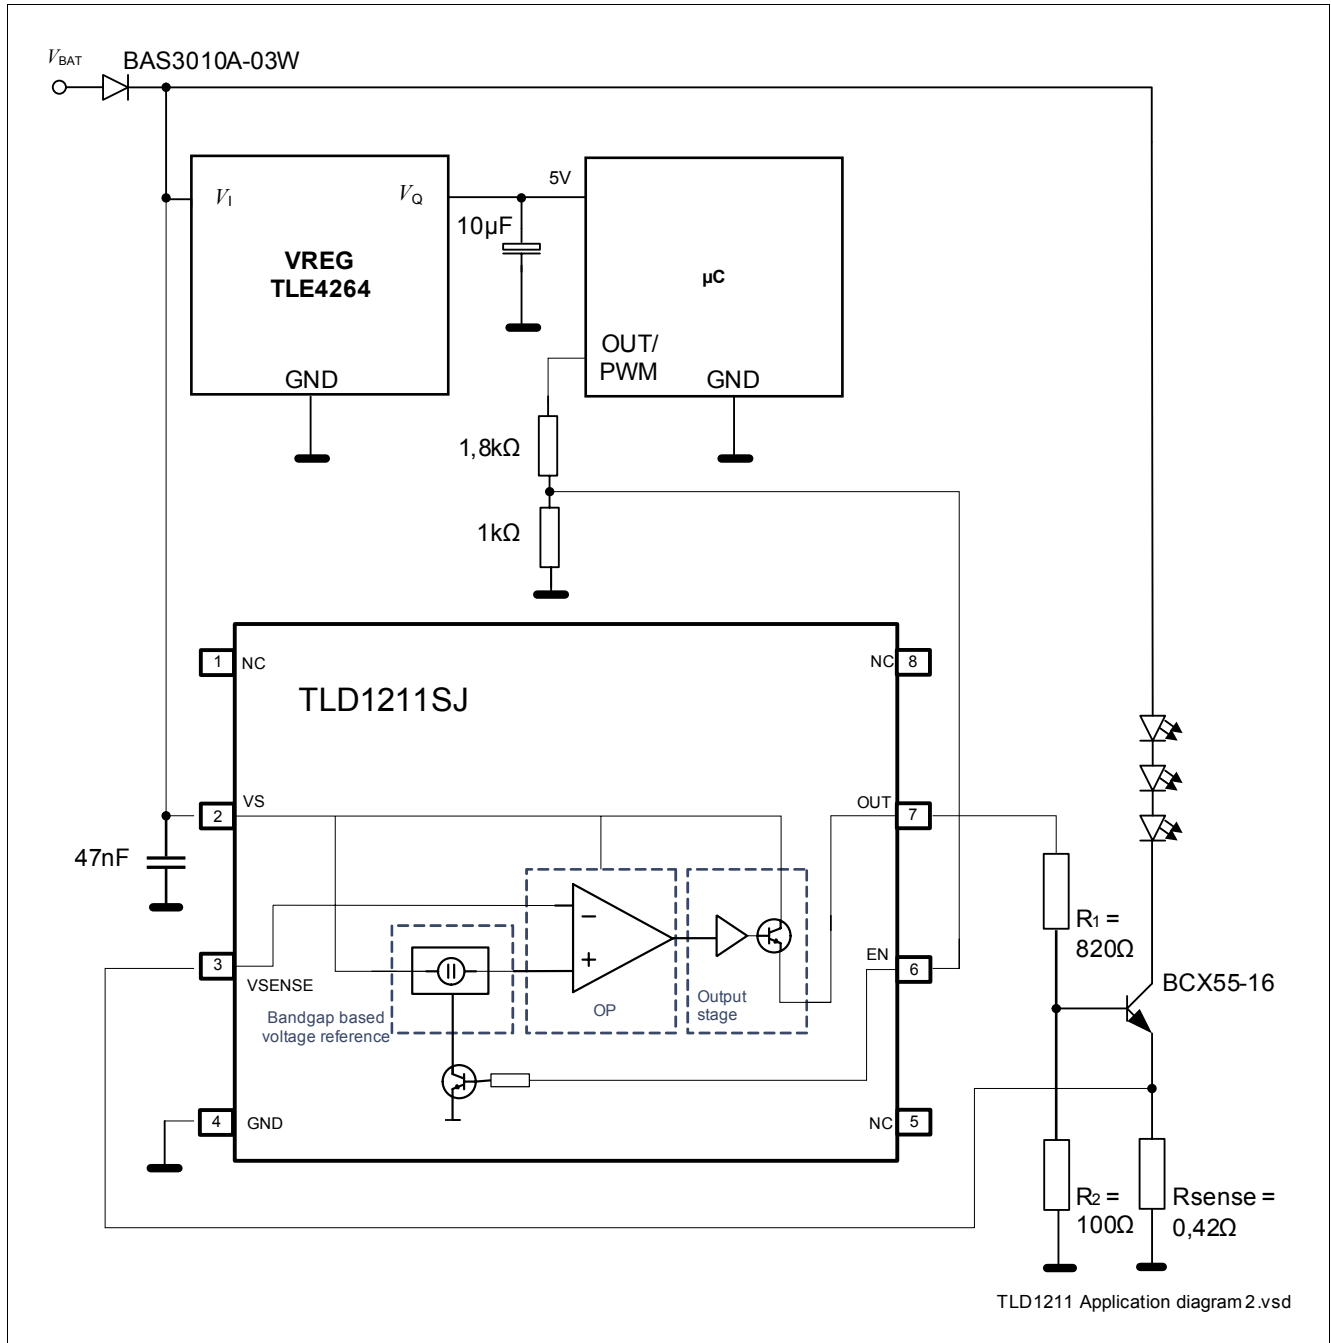

Figure 16 Application Information with External Output Stage
2) When using an external Boost transistor this time is reduced (See also Figure 16)